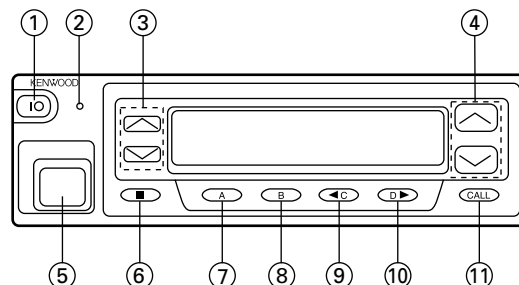

Fig. 1
1. Transceiver Controls and Indicators (Fig. 1)
The numbers correspond to the Figure 1.